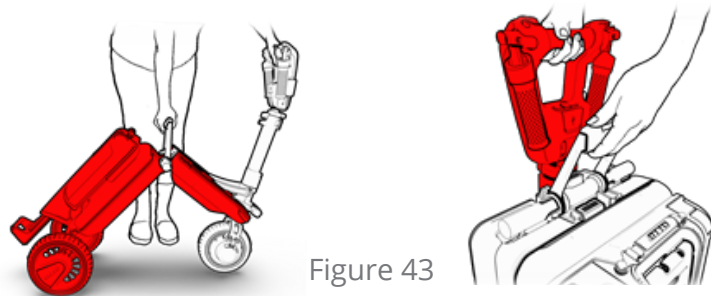

Figure 43
6. Use the main handle to pull the center upward and toward the rod (See Figure 43, step 1) until it clicks and locks in place (See Figure 43, step 2).